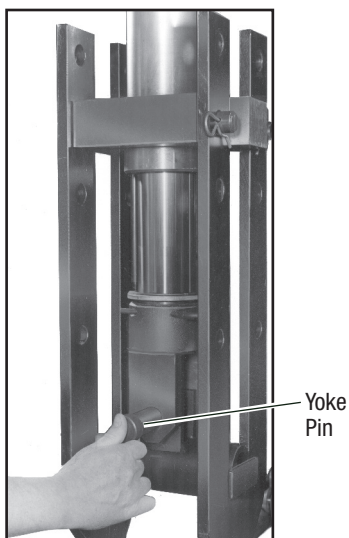

Figure 7
3. Apply pressure to gradually extend the ram until the holes of the ram positioner line up with the holes of the yoke. Then attach the ram positioner to the yoke with the yoke pin as shown in Fig. 7.